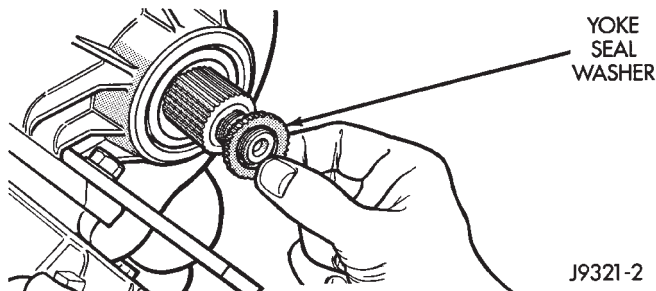

Fig. 2 Removing Yoke Seal Washer
- (3) Remove yoke seal washer from front output shaft (Fig. 2).